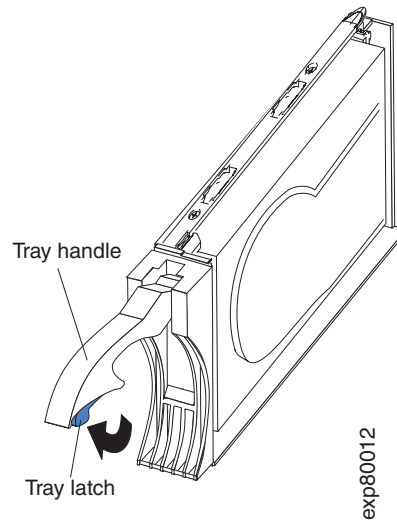

Figure 61. E-DDM CRU handle
- b. Pull the handle on the tray out so that it is in the open position, as shown in Figure 61.
- a. Release the latch on the E-DDM CRU by pressing on the inside of the bottom of the tray handle, as shown by the arrow in Figure 61 on page 105.